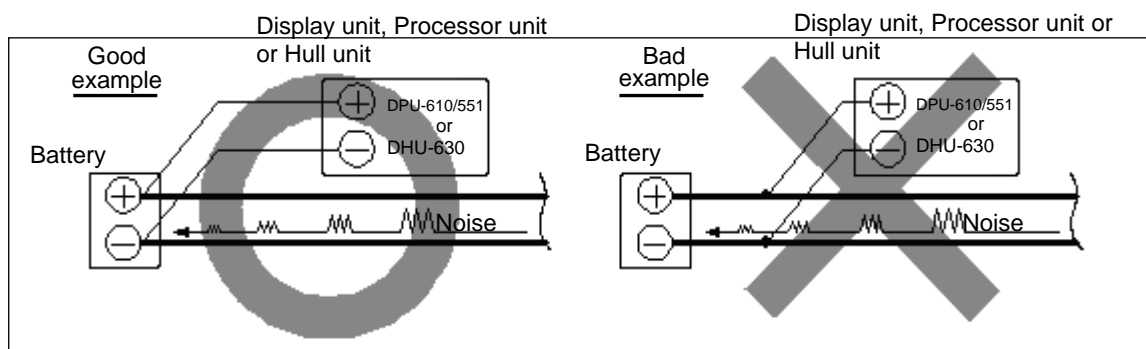

Fig. 1.1 KDS-6000BB/5500BB Connection of power line
- (3) If you connect the power cable directly to the battery, interference from the other electronics equipment is expected to be less. (See Fig. 1.1)